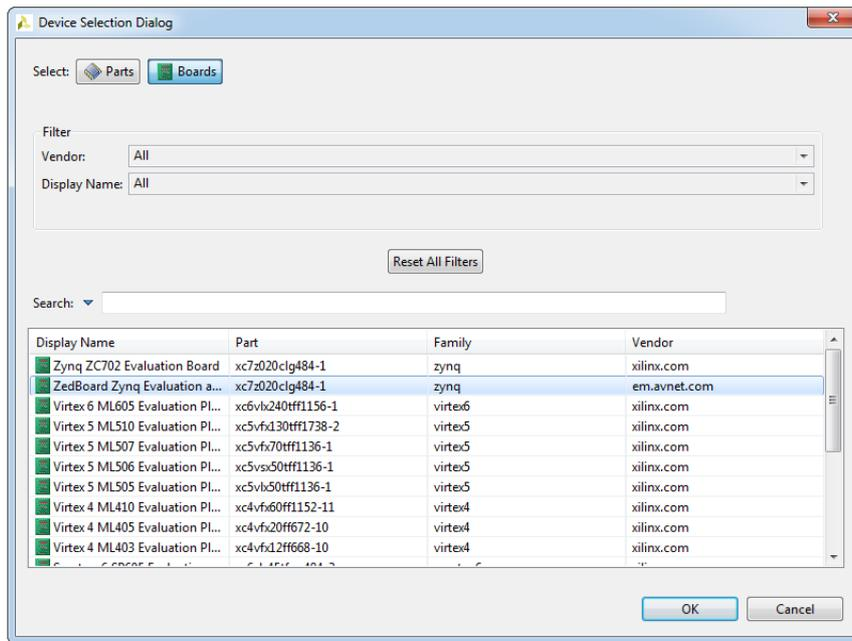

Figure 2.10: Device Selection Dialog dialog box
Step 9. In the **Device Selection Dialog** dialog box choose a default Xilinx part or board for your project. Select **Boards** to choose the default board for the project and a list of evaluation boards will be displayed, see Figure 2.10.